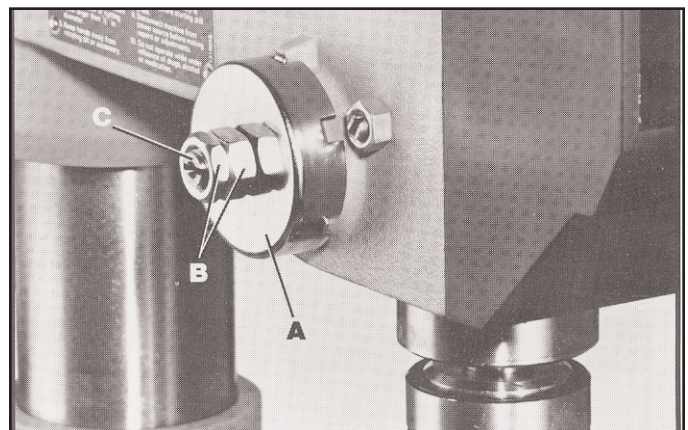

Fig. 24
For the purpose of automatically returning the spindle upward after a hole has been drilled, a spindle return spring is provided in the spring housing (A) Fig. 24. This spring has been properly adjusted at the factory and should not be disturbed unless absolutely necessary. To adjust the return spring, proceed as follows:
2. Loosen the two nuts (B) Fig. 24, approximately 1/4". Do not remove nuts (B) from shaft (C).